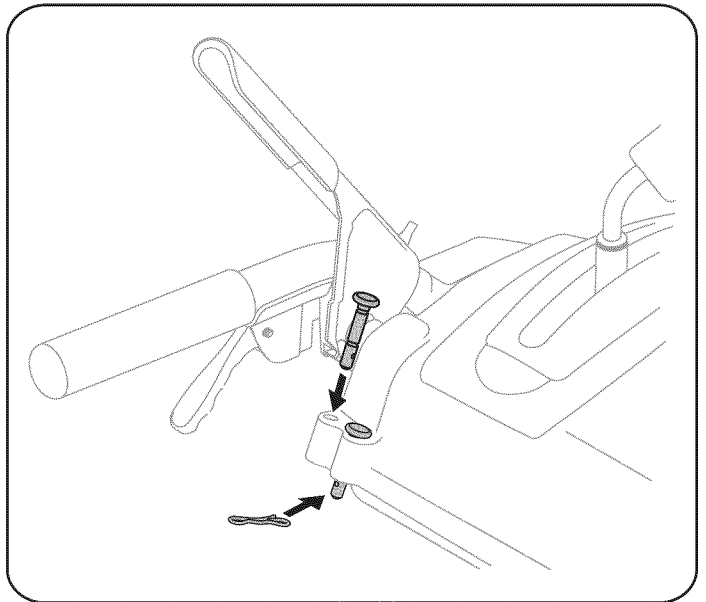
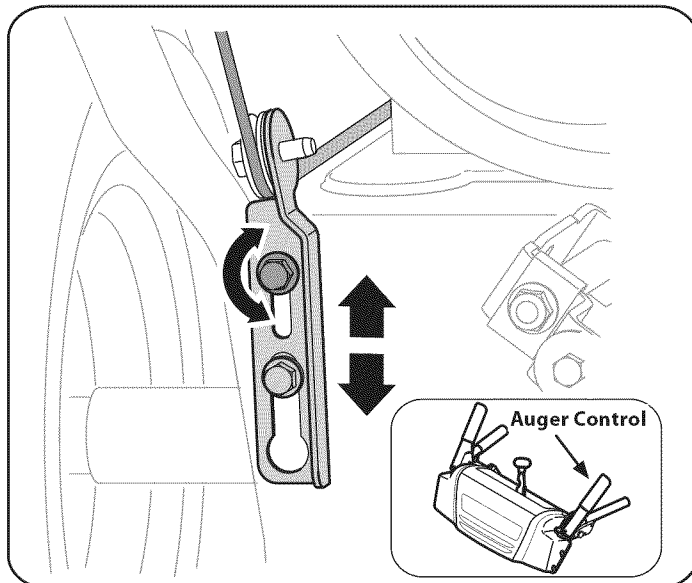

Figure 11
Figure 14
Holes are located in the handle panel for convenient shear pin storage. See Figure 11. Refer to the Operation section for more information regarding shear pin replacement.
1. The auger control is located on the left handle. See Figure 11 inset. When the auger control is released and in the disengaged “up” position, the cable should have very little slack. It should NOT be tight.
4. Allow the augers to remain engaged for approximately ten (10) seconds before releasing the auger control. Repeat this several times.
7. To readjust the control cable, loosen the upper hex bolt on the auger cable bracket. See Figure 14.